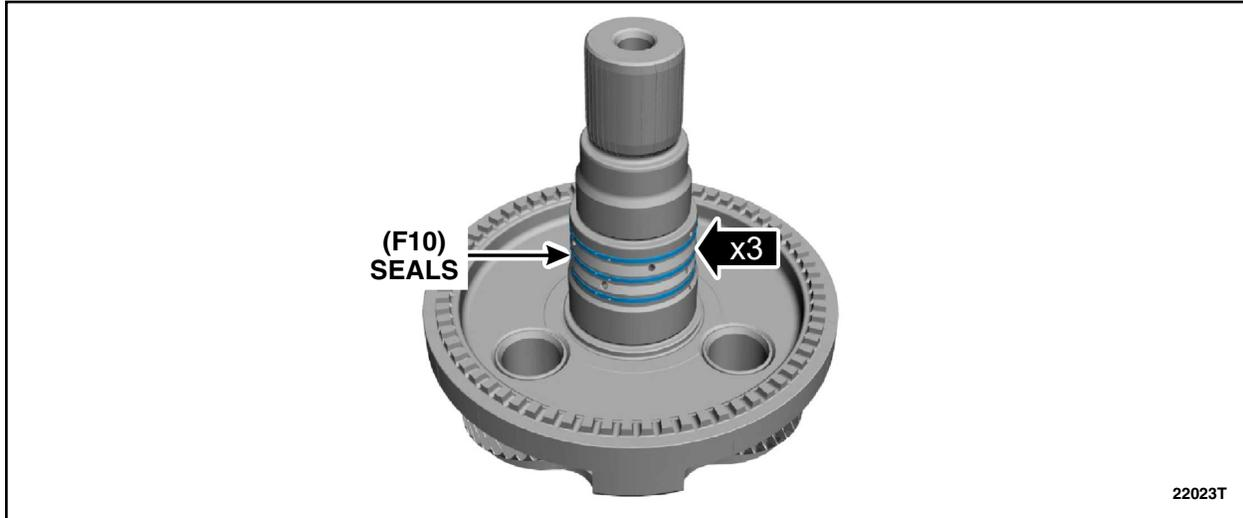

FIGURE 27
30. Install *new* (F10) seals on the *new* output shaft. See Figure 27.